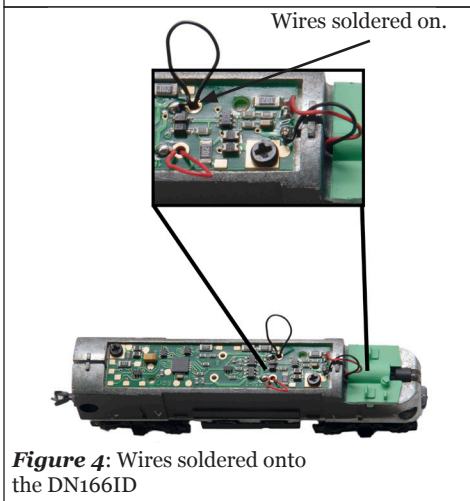

Figure 4: Wires soldered onto the DN166ID
4. Take the new DN166I1D decoder and feed the motor leads up through the holes as show in **Figure 4**.